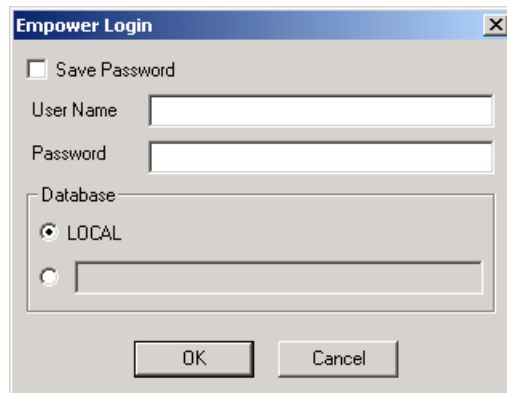

Figure 3-35 Empower Login
2. Click Login to open the Empower Login dialog box (Figure 3-35).